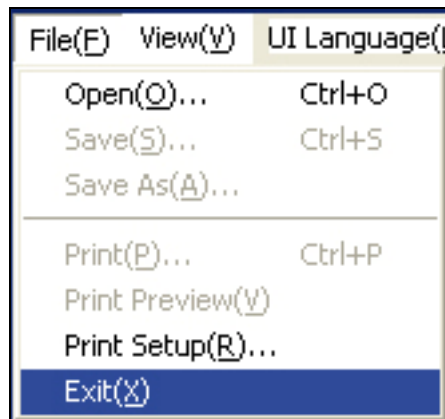

Figure 7-1 "File" Menu
(1) "File" menu, refer to Figure 7-1.